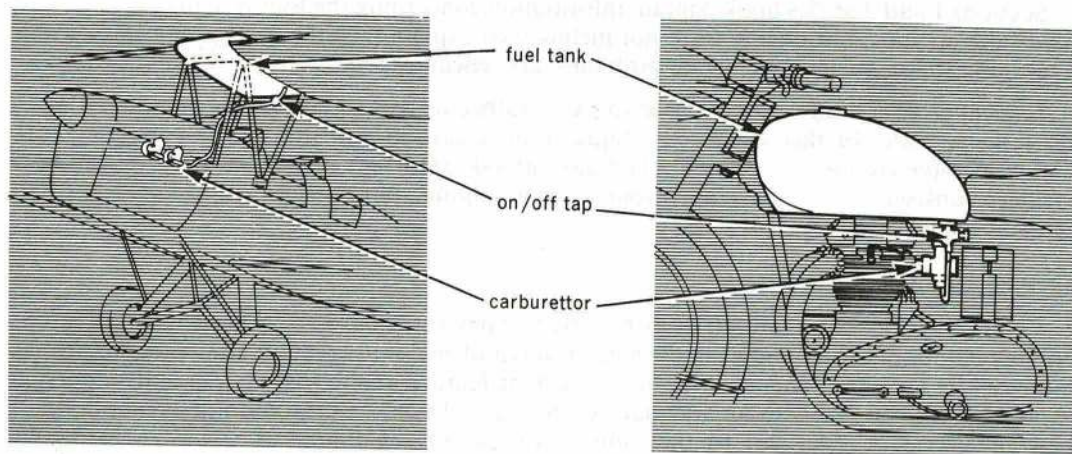

Fig 6.1.1. A gravity feed fuel system
8. **Gravity feed fuel system.** Early piston engined aircraft used a gravity feed fuel system similar in principle to the fuel system of a motor cycle (Fig 6.1.1).